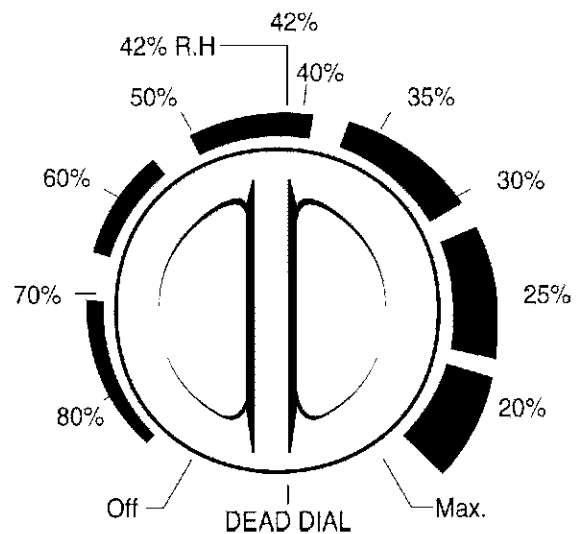

Figure 3
- When first using the dehumidifier, we recommended that you run the unit with the humidistat control set to MAX for the first three or four days until excess moisture and dampness odors are gone. After that you can select the humidistat position that will best suit local conditions. The dehumidifier can control from 20% to 80% relative humidity. (See Figure 3.)
NOTE: The relative humidity levels shown in Figure 3 are approximate values.